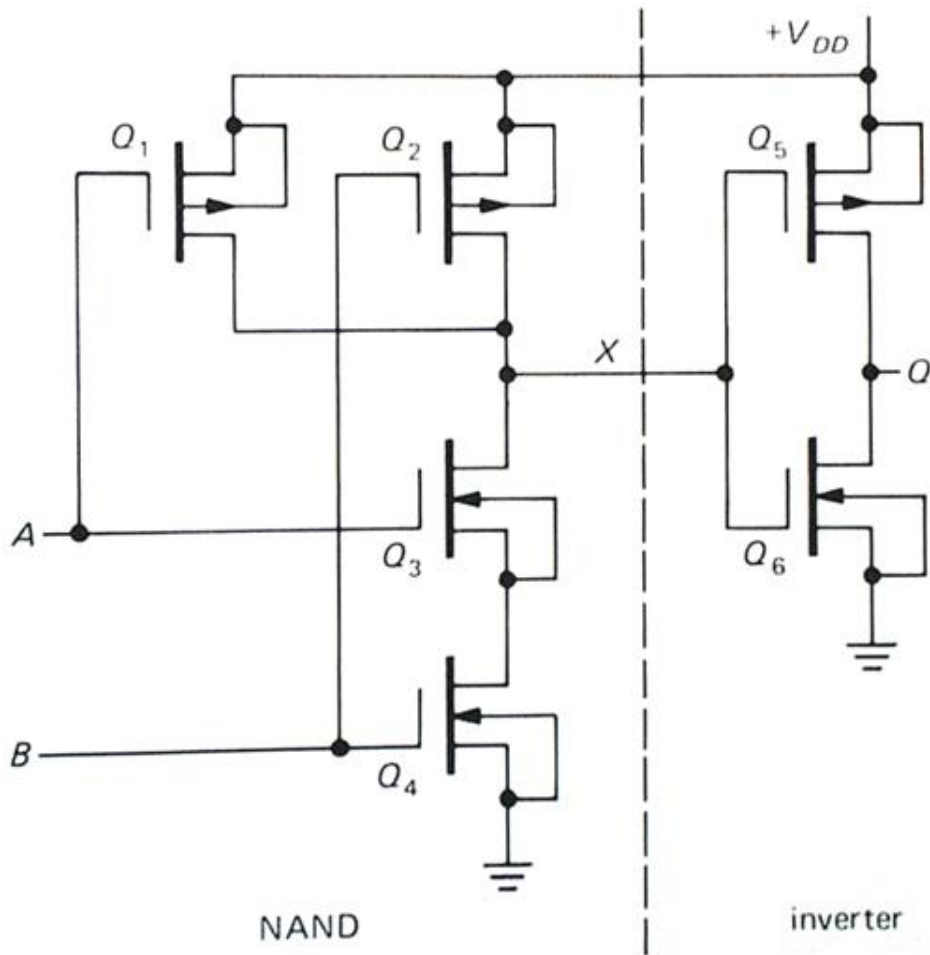

Figure 10.6 CMOS AND gate circuit
2. (Refer to Section 10.2) Based on the circuit diagram shown in Figure 10.6, explain how a **CMOS AND** gate circuit works.